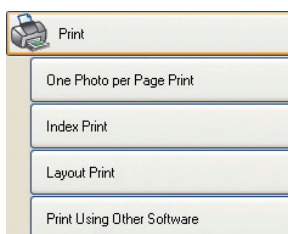

Fig. 003 Print task buttons
- A new "Print 1 copy" button has been added to the print tasks to provide ZoomBrowser EX with its own printing function (Fig. 003, 004).